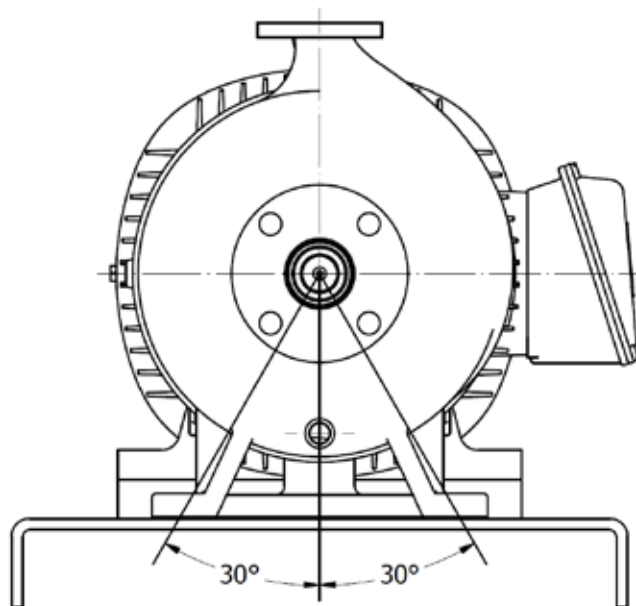

Figure 4.1. Imaginary lines.
- The mass of the concrete foundation should be five (5) to ten (10) times the mass of the supported equipment.
- Imaginary lines extended downward 30 degrees to either side of a vertical line through the pump shaft should pass through the bottom of the foundation and not the sides, as shown in Figure 4.1.